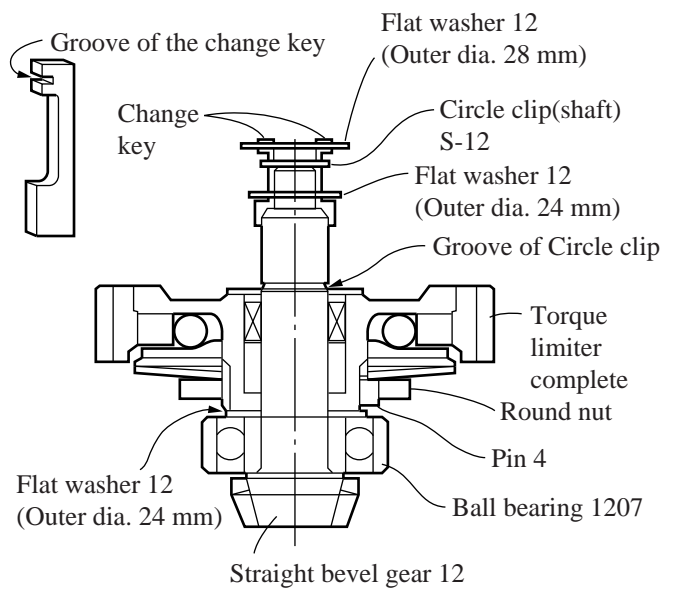

Figure 20
- a. Assemble the ball bearing 1207, flat washer 12(Outer dia. 24 mm) and torque limiter complete into the spiral bevel gear 10. (See the figure 20.)
- b. Insert the flat washer 12(Outer dia. 24 mm) and the circle clip(shaft) S-12 while setting the two pieces of change keys into the key groove of the straight bevel gear 12, and then insert the flat washer 12(Outer dia. 28 mm) into the groove of the change key.(See the figure 20.)
- c. Slide downward the two pieces of change keys and then insert the circle clip(shaft) S-12 into the groove of the circle clip. (See the figures 20 and 21.) Make sure that the circle clip has been securely inserted in the groove.